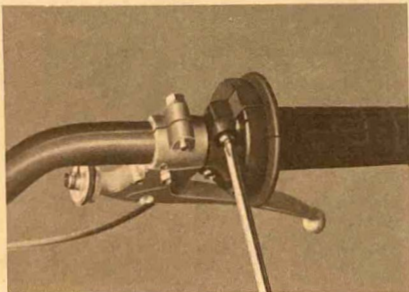

Fig. 28
13. Bolt the upper and lower throttle housing together, and check the throttle grip for smooth action, then fully tighten the throttle housing securing screws. (Fig. 28)